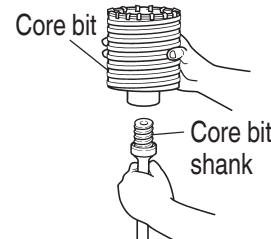

Fig. 13
- (1) Mount the core bit on the core bit shank. (**Fig. 13**) Before that, feed oil to the screw portion of core bit shank for easy dismounting.